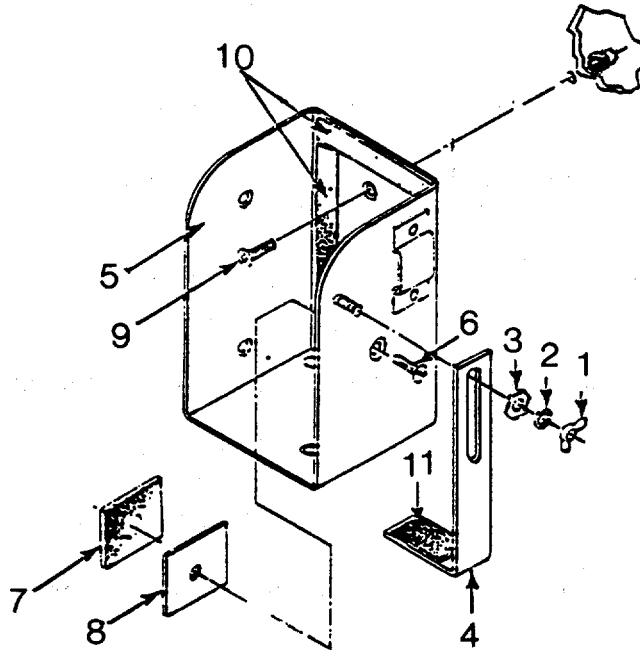

Figure 4-60. Telephone Bracket Assembly
a. Inspect. (See Figure 4-60.)
b. Replace. (See Figure 4-60.)
- (1) Remove wingnut (1), lockwasher (2), flat washer (3), and bracket (4) from telephone bracket (5).
- (2) Remove screw (6), rubber backing (7) and plate (8).
- (3) Remove screws (9) and bracket (5).
- (4) If necessary, remove rubber padding (10 and 11).
- (5) If removed, install rubber padding (10 and 11) by gluing to brackets (5 and 4).
- (6) Install screws (9) and bracket (5).
- (7) Install plate (8), rubber backing (7) and screw (6).
- (8) Install wingnut (1), lockwasher (2), flat washer (3) and bracket (4).
c. Repair. (See Figure 4-60.)